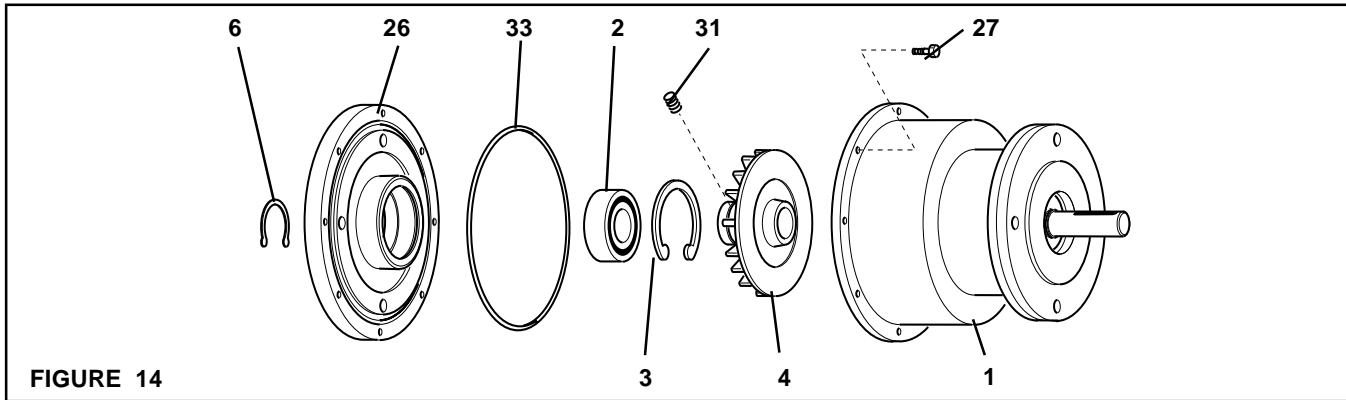

FIGURE 14
1. Remove the Retaining Ring (Item 6) from the Drive Disc (Item 4) (See Figures 14 and 15).
2. Fully supporting the Female Pilot (Item 26), press the Drive Disc (Item 4) out of the Female Pilot (Item 26) (See Figures 14 and 15).
3. Remove the Retaining Ring (Item 3) from the Female Pilot (Item 26) (See Figures 14 and 15).
4. Press the Bearing (Item 2) out of the Female Pilot (Item 26) (See Figures 14 and 15).
5. Fully supporting the Female Pilot (Item 26) and pressing on the outer bearing race, press the new Bearing (Item 2) into the Female Pilot (See Figures 14 and 15).
6. Install the Retaining Ring (Item 3) into the Female Pilot (Item 26) (See Figures 14 and 15).
7. Fully supporting the inner race of Bearing (Item 2), press the Drive Disc (Item 4) into the Bearing and Female Pilot (See Figures 14 and 15).
8. Install the Retaining Ring (Item 6) onto the Drive Disc (Item 4) (See Figures 14 and 15).
11. Coat the new O-ring Seal (Item 33) with fresh O-ring lubricant and place the new O-ring onto the Female Pilot (See Figure 14).
12. Secure the Female Pilot Assembly to the Housing with the eight Hex. Head Cap Screws (Item 27) (See Figure 14).